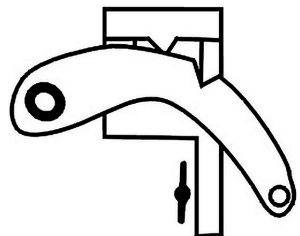

Fig. 2
4. Release the reversing latch (#17), so that it is in the DOWN position. The reversing switch tooth is no longer in the indentation (see Fig. 2).